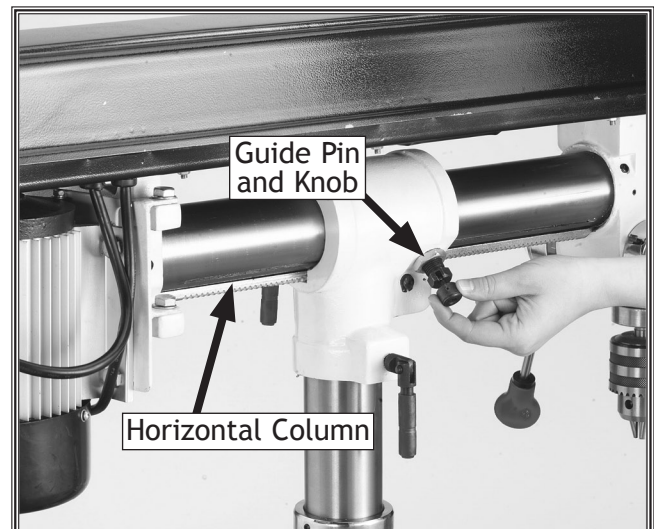

Figure 32. Headstock guide pin and knob.
2. Pull out the guide pin knob located on the left side of the headstock and rotate the pin knob 90° so the pin stays disengaged from the horizontal column (see **Figure 32**).